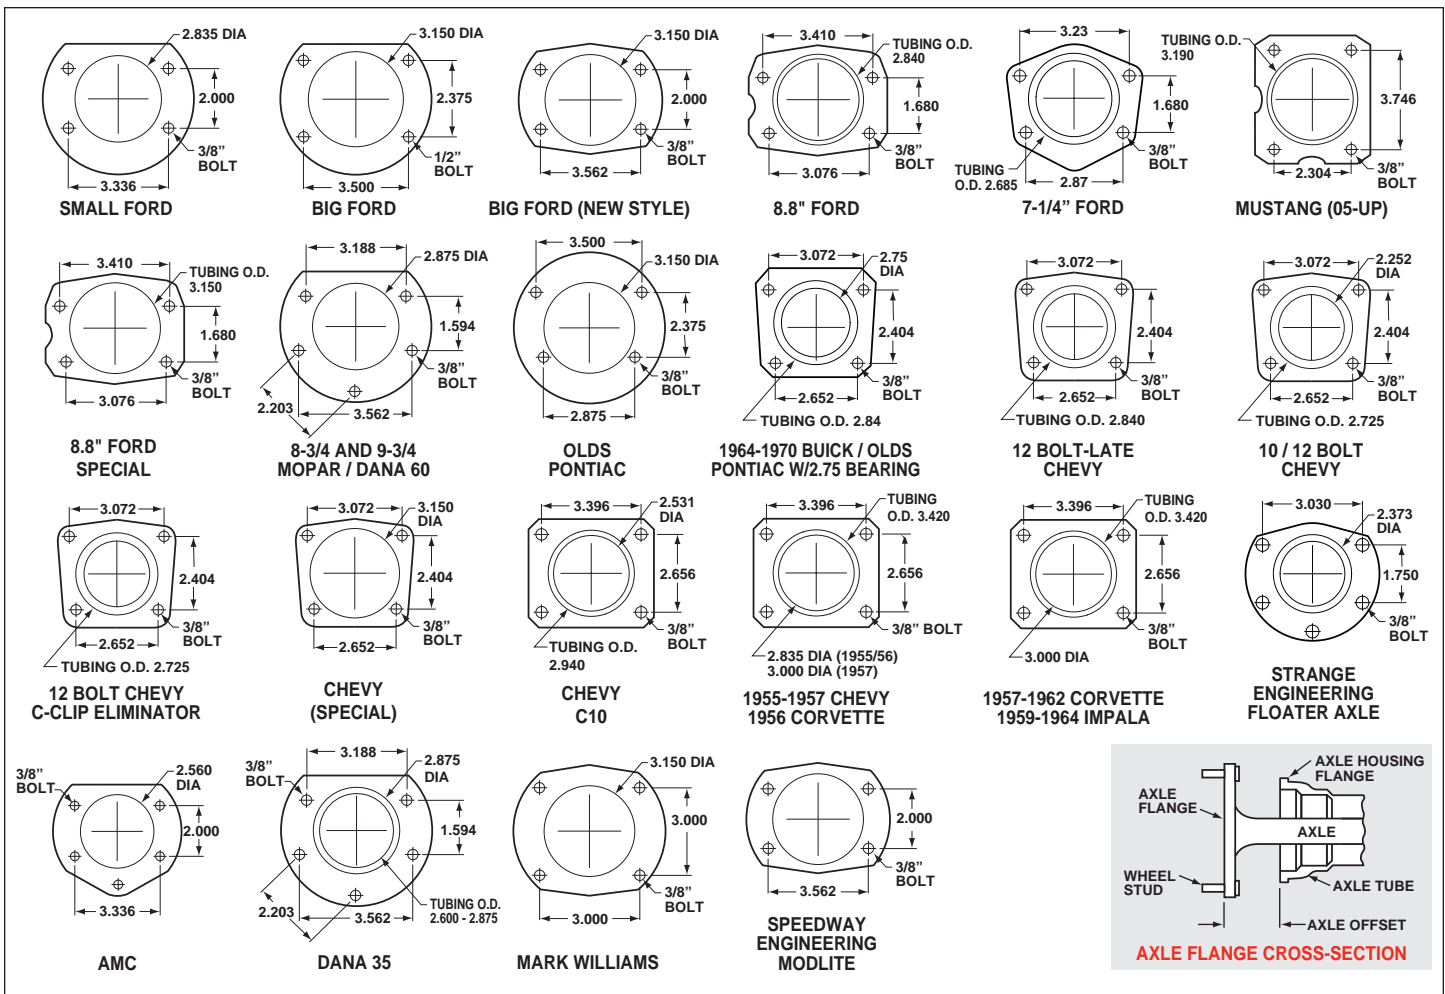

Figure 5. Rear Housing Flange Chart with Axle Flange Cross-Section Diagram
- Make sure this is the correct kit to fit the axle housing flange, not necessarily the rear end make. Many times after market manufacturers put a different make of axle housing flange on the stock rear end housing (see Figure 5). Example; Big Ford rear ends with Olds-Pontiac flanges, therefore, an Olds-Pontiac rear disc brake kit would be the correct kit to order.
- Dimension from wheel side of axle flange to wheel side of axle housing flange (see Figure 5, lower right hand corner). This dimension is critical to ensure proper alignment of the rotor to the caliper, and should match offset given in the kit description.